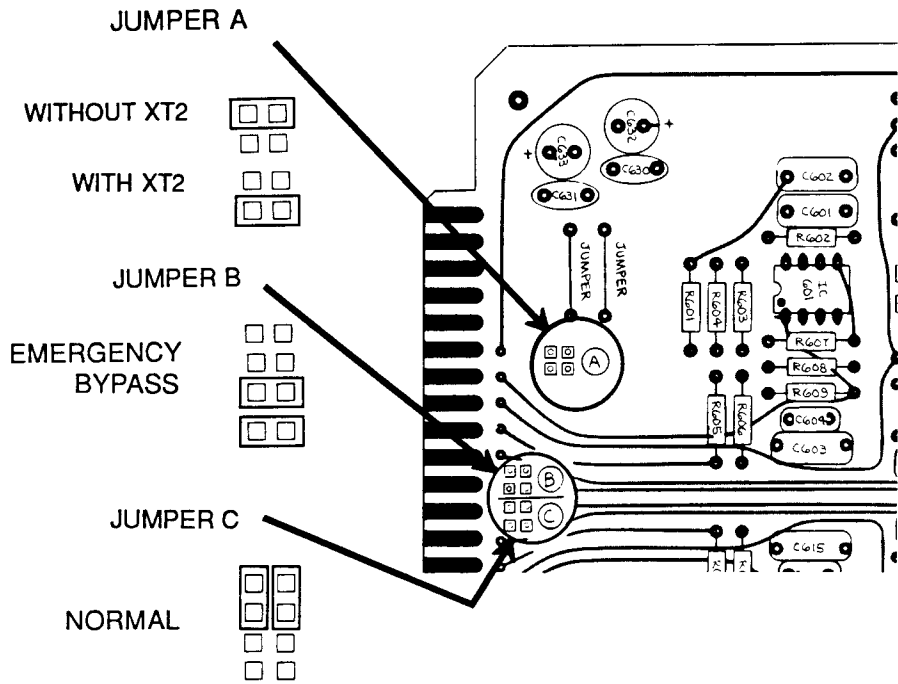

Fig. 2-7: Jumper Positions, Card #6
- d  Move jumper A on Card #6 to the WITH XT2 position (see Fig. 2-7).